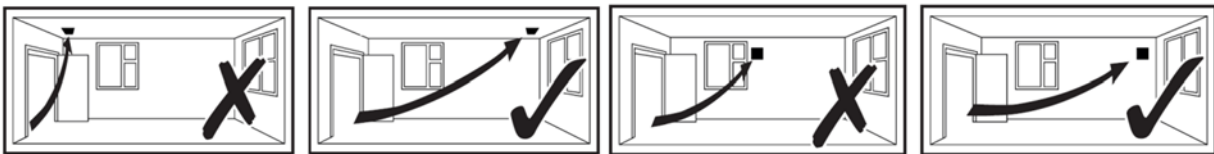

Fig.1: QF100SX5CON
1. Select and follow the appropriate wiring diagram. (Fig. 1, 2 or 3)
See Fig 1, 2, 3, 4, 5, & 6
QF100SX5CON – Single speed fan. Controlled by remote switch (e.g light switch or auto sensor) Fig.1.